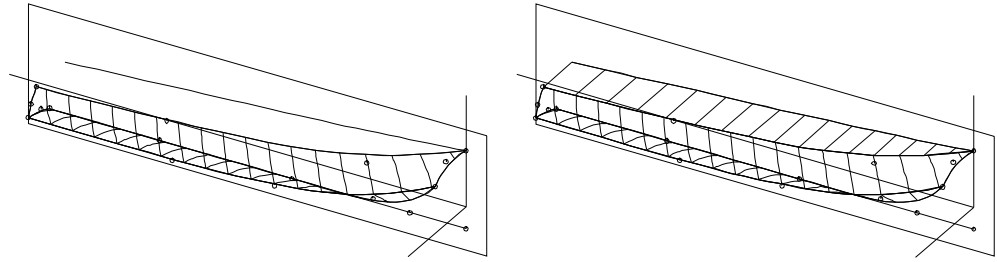

Fig. 16
**Mirror = 'ctr\_plane'** (Fig. 16, left).
**Advanced>Divisions = 16x1, 1x1** (Fig. 16, right)